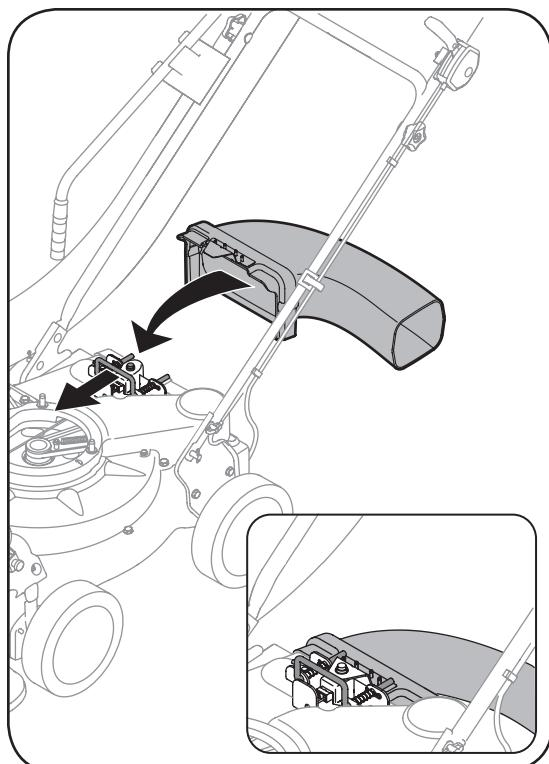

Figure 3-8
8. a. Grasp blower chute with one hand and slide locking rod on mounting bracket with other hand toward engine. Use the end of mounting bracket as leverage when sliding the locking rod. See Figure 3-8.
1. Grasp blower chute with one hand and pull lock rod on mounting bracket with other hand toward engine to release. Refer to Figure 3-8 in **SETTING UP YOUR CHIPPER SHREDDER VACUUM**.